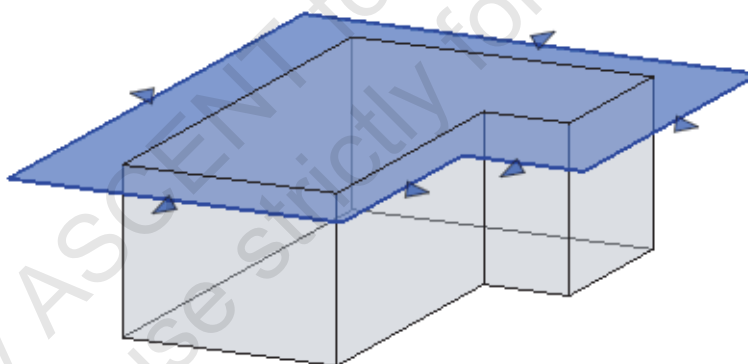

Figure 1–92
- After you have created a roof by face, you can use shape handles to modify the overhang of the roof, as shown in Figure 1–92.